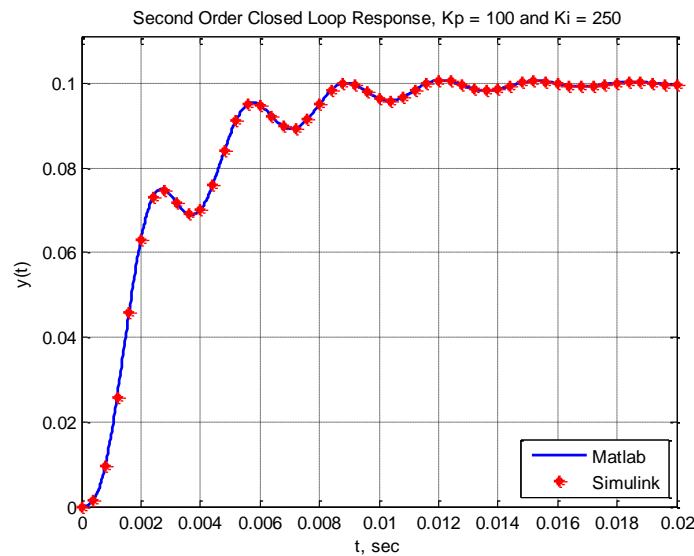

Figure 9: Second order closed loop response
- Simulate your system in both Matlab and Simulink using the integral controller with a gain of **250**. Your result should look like similar to Figure 9. Note that the steady-state output is the same as the reference input.